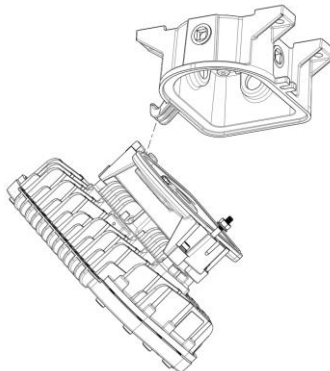

Figure 3: Hang Area Light on Bracket
5. Hang the Area Light on the Flush Mount Bracket. Make sure you do not pinch any of the wires during this process. **See Figure 3**